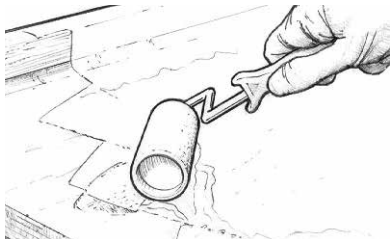

Figure 21 Wet out porous surfaces before applying fairing compound.
2. Wet out porous surfaces with unthickened epoxy (Figure 21).